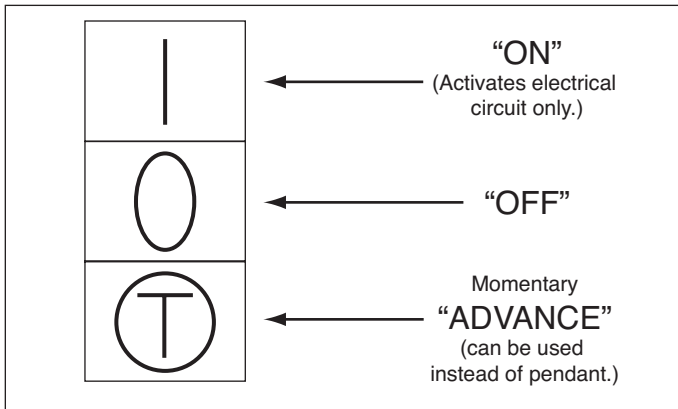

Figure 5 - Pump Switch Positions
4. Be sure the pump switch is “OFF”. See Fig. 5.